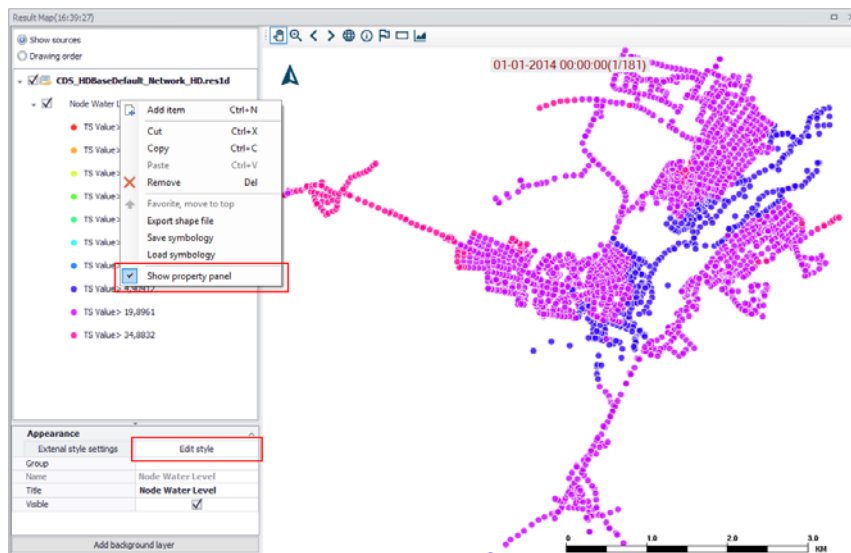

Figure 20.16 Edit a result layer symbology and label via the 'Edit style' option
- On the left panel of the result plot, right-click on the result item layer and choose 'Show property panel' from the local context menu. The property panel appears at the bottom left corner of the window (Figure 20.16).
- Expand the 'Appearance' property line in the property panel by clicking on the dropdown icon. The 'Edit style' option is then displayed below the line (Figure 20.16).